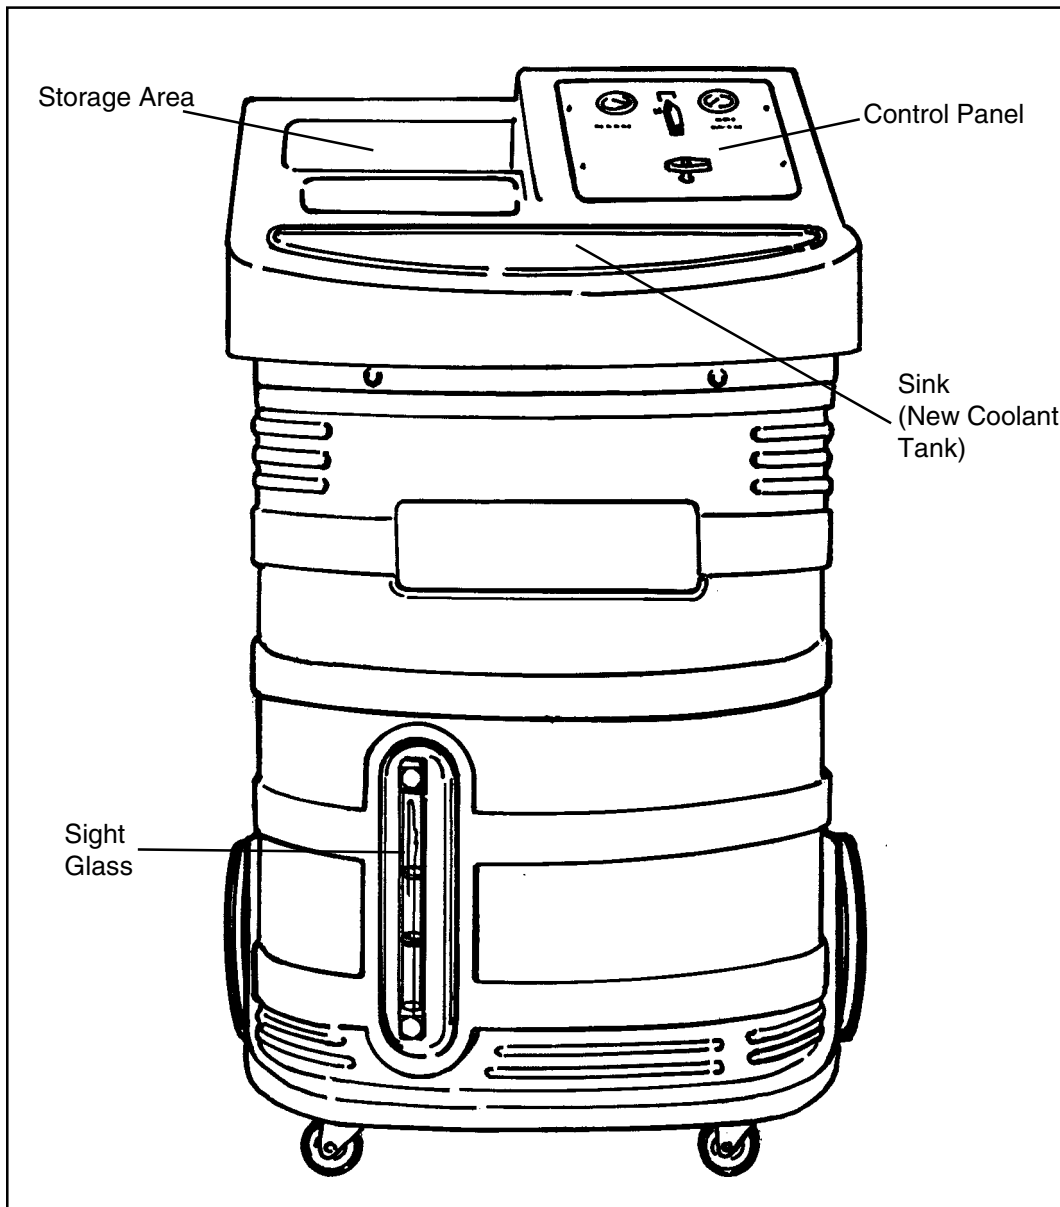

Figure 5 — Front View of Unit
2. Connect a 1/4" male fitting to the air supply inlet located on the upper left side of the unit's rear panel (see Figure 5). You will have to furnish this fitting.